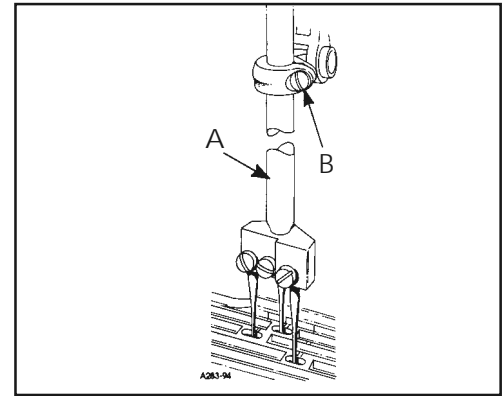

FIG. 4
Insert a new set of needles, type and size specified, with screw (B, Fig. 4) slightly loosened, lower needle bar (A) and turn needle head as required until the needles are centered in the throat plate needle hole slots. Tighten screw (B) torque to 19-21in.lbs. (2.1-2.4Nm).